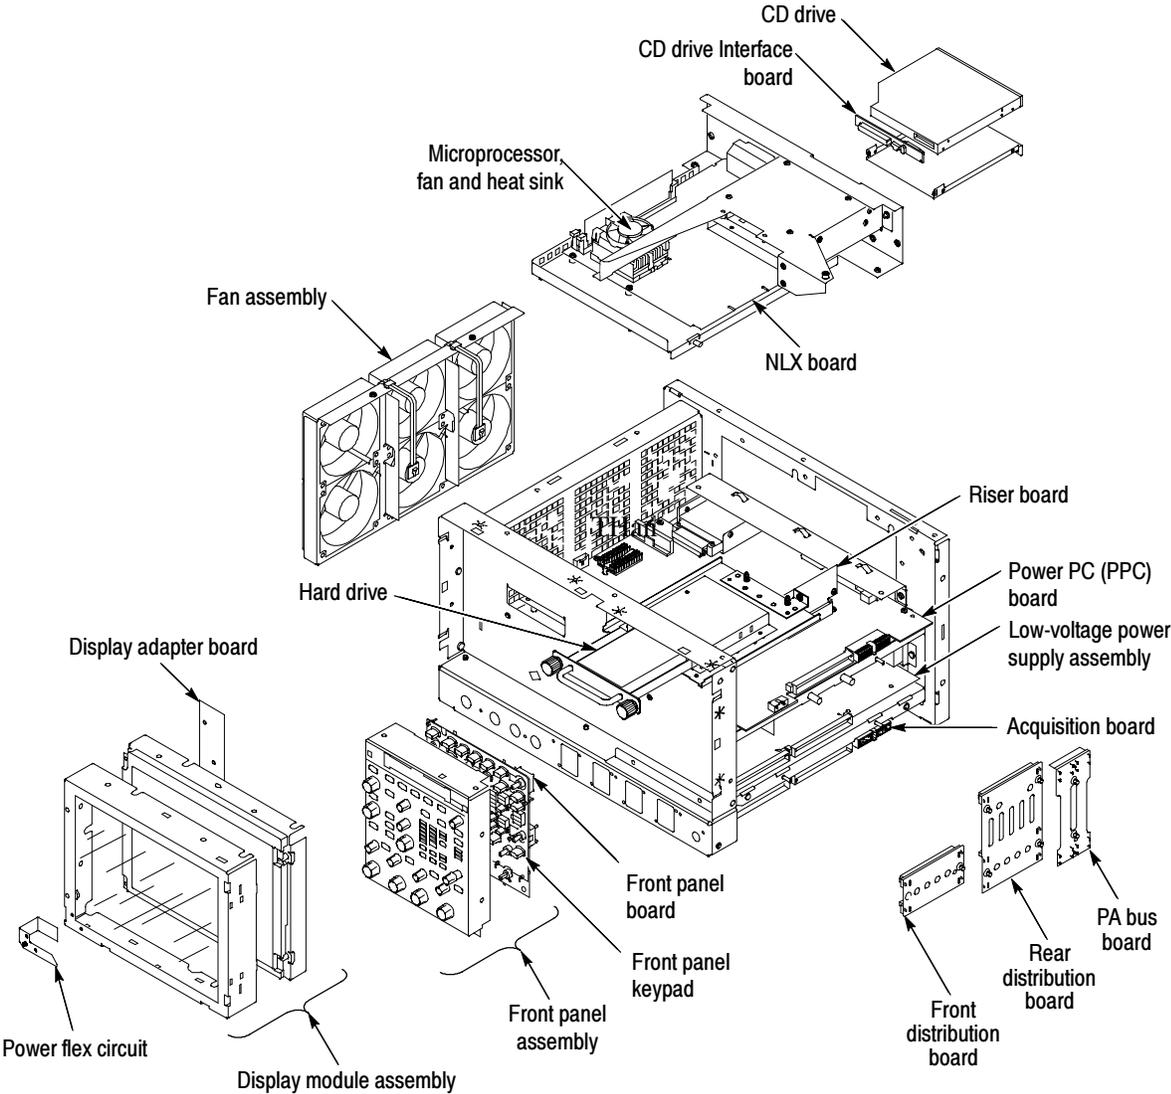

Figure 2-8: Internal modules
1. *Locate modules to be removed:* Locate the Hard Disk Drive in the locator diagram *Internal Modules*, Figure 2-8 on page 2-13. Additional modules to be Removed:
1. *Locate module to be removed:* Locate the NLX Board in the locator diagram *Internal Modules*, Figure 2-8, on page 2-13. Additional modules to be removed: